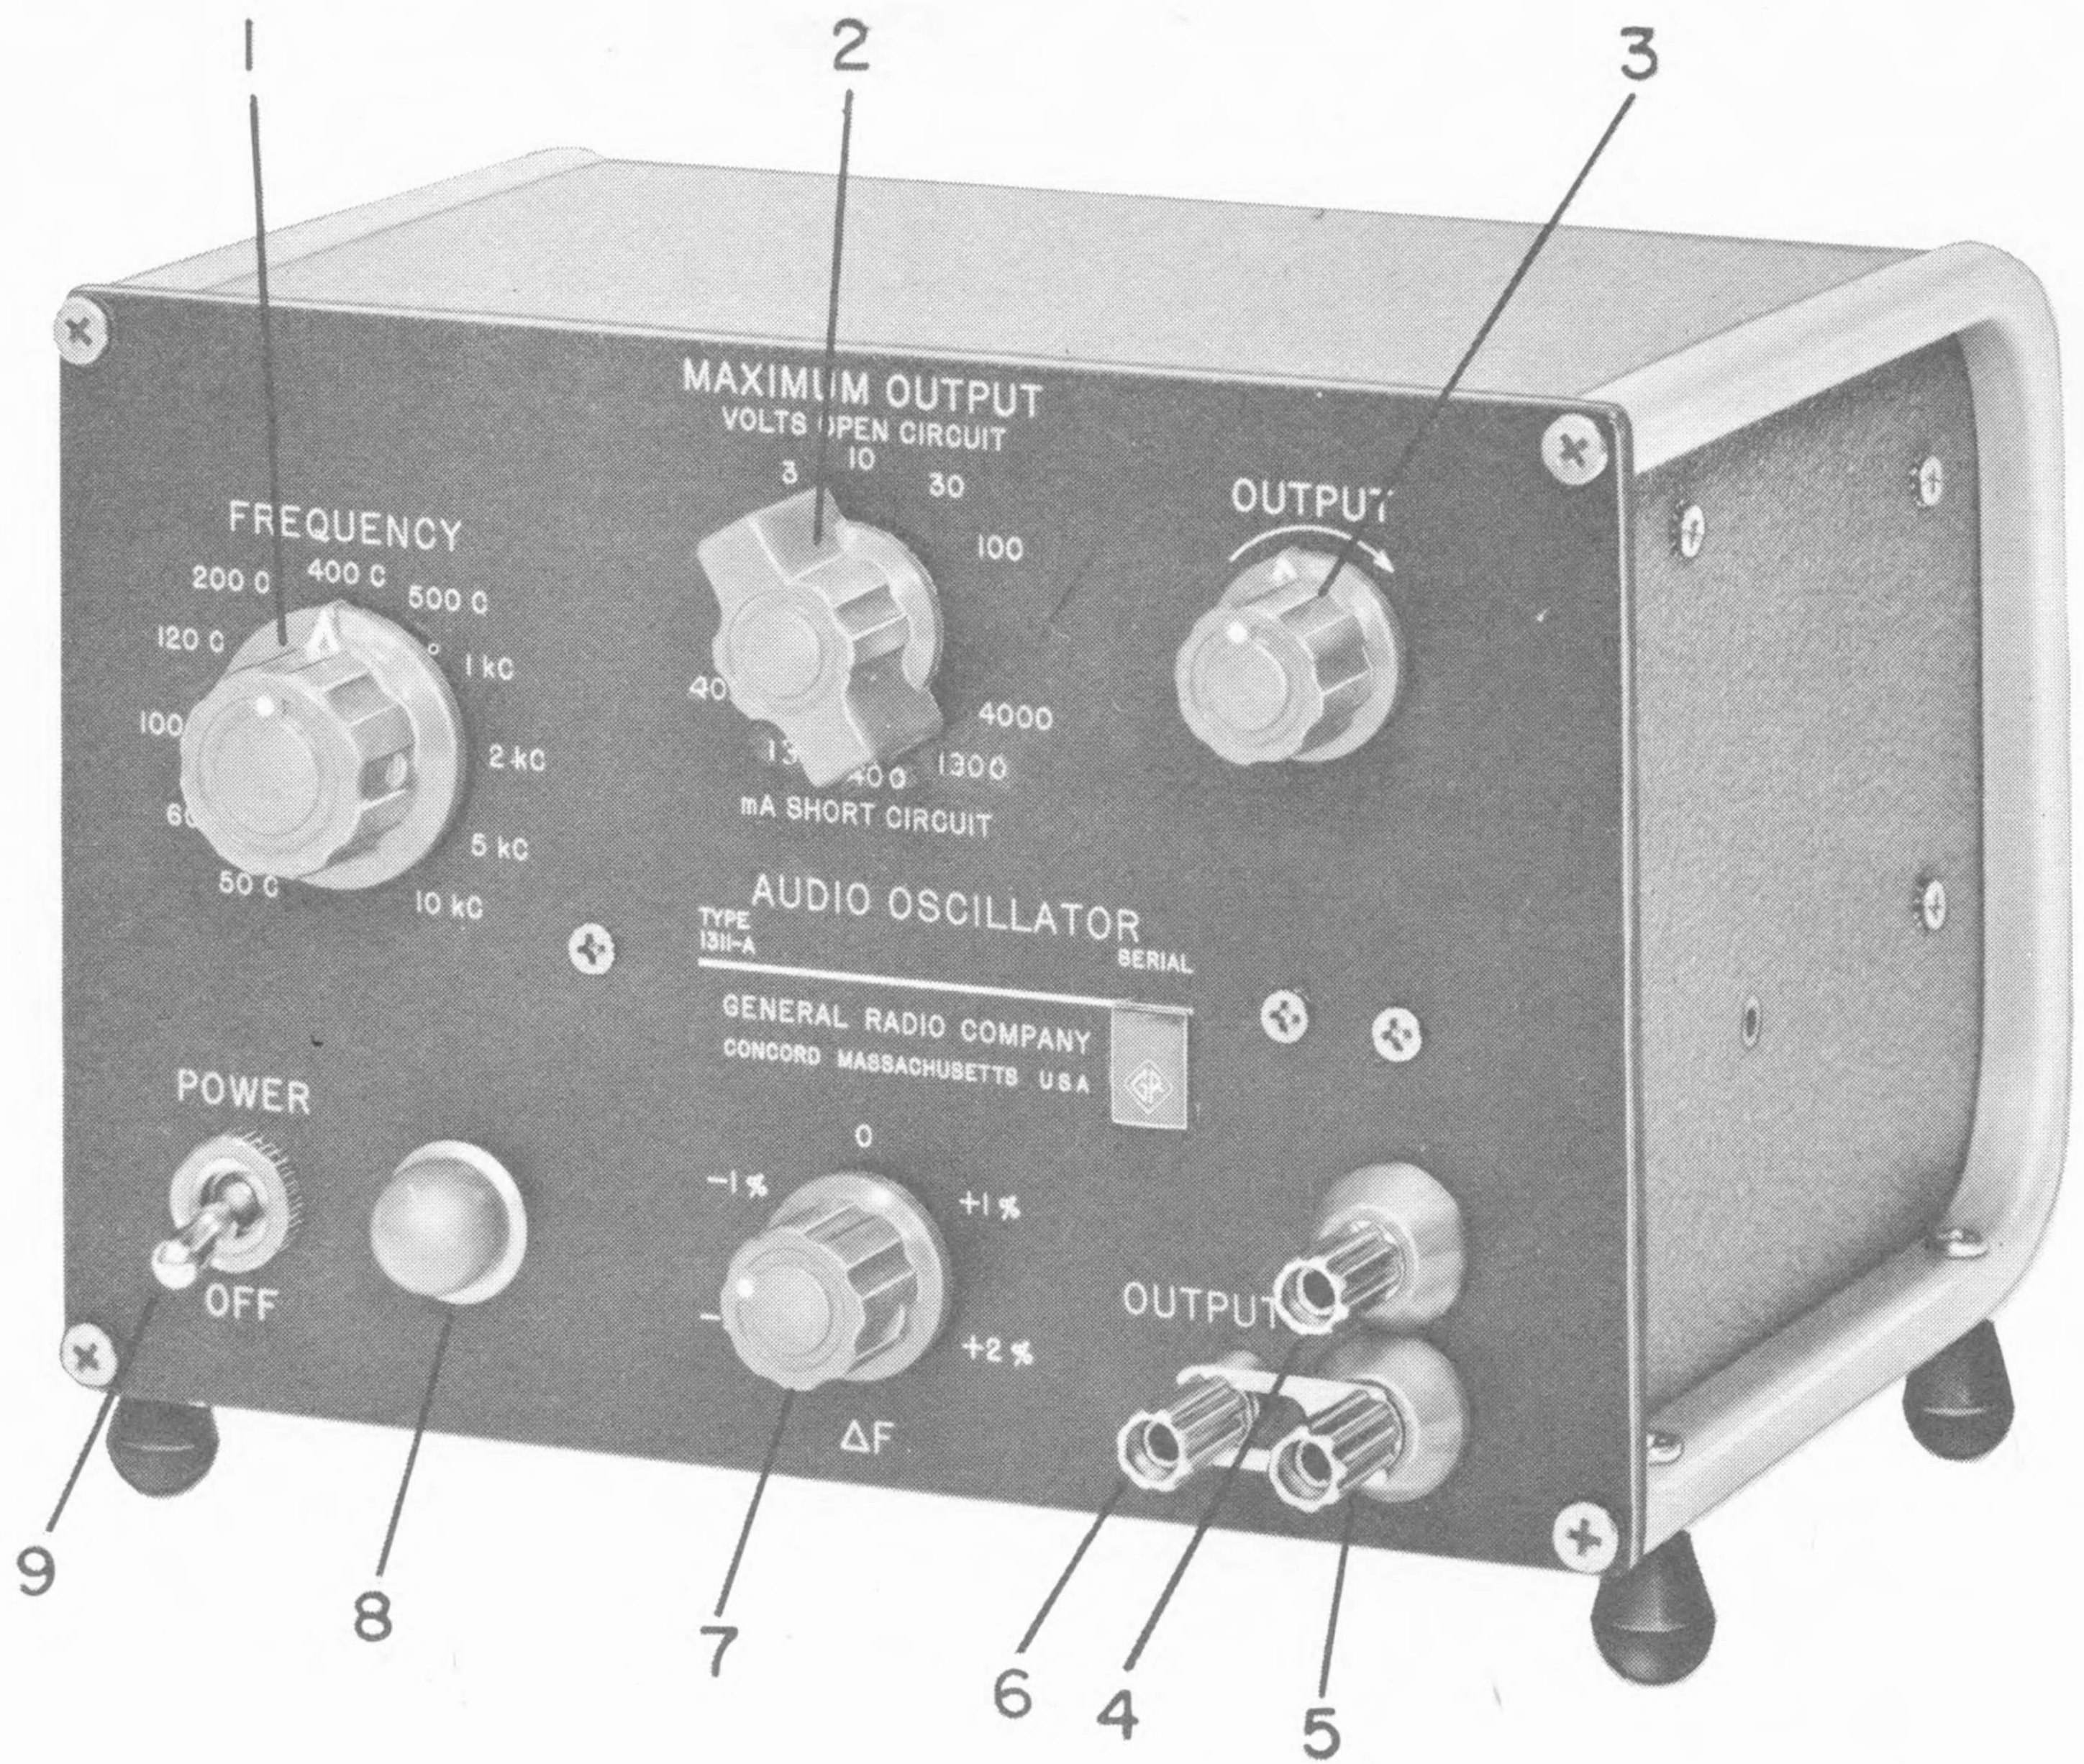

Figure 1-1. Type 1311-A Audio Oscillator.
The Type 1311-A Audio Oscillator (Figure 1-1) is a complete, compact, and self-contained audio-frequency source intended for general laboratory use, and is particularly well suited for use in audio-frequency bridge measurements. It can provide an essentially pure sinusoidal output, stable in amplitude and frequency, over a wide range of load impedances, at 11 frequencies. Provision has been made for a 12th frequency, which the user can readily add by the installation of two commonly available precision resistors.
3.1.2 GROUNDING. The instrument should normally be operated with the chassis grounded through the three-wire power cord. If the cord is not used, make the ground connection at J103(6, Figure 1-1) on the front panel, if required.
3.1.3 OUTPUT CONNECTION. Take the oscillator output from the jack-top binding post pair J101 - J102 (4 and 5, Figure 1-1). J101 is always used above ground, but J102 may be grounded or ungrounded, depending on the requirements of the test setup in use. A captive shorting-link affixed to J103 may be attached to J102, if it is desired to work one side of the output against ground. However, if ground loops pose a problem, disconnect the shorting link from J102 to achieve a completely isolated "floating" output.